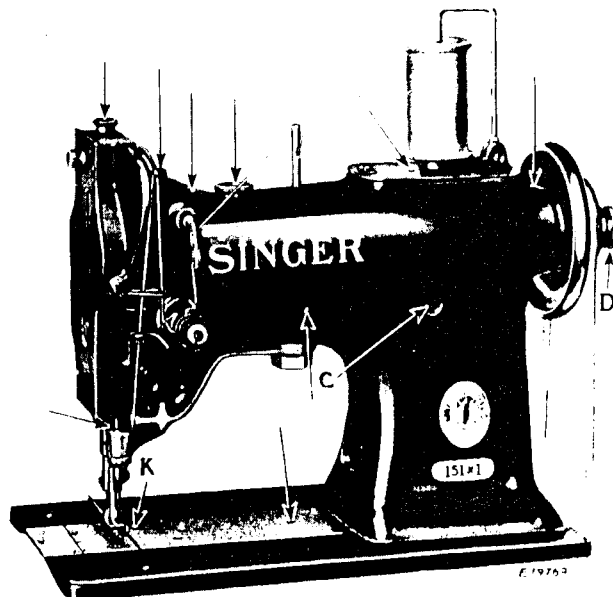
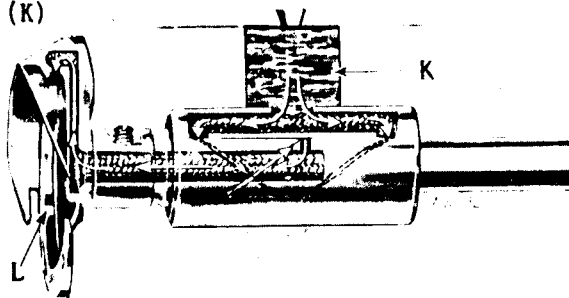

Fig. 2. Oiling Points at Front of Machine
Fig. 3. X-ray View of Hook
Before starting the machine, fill the oil reservoir (K, Figs. 2 and 3) through the oil hole in the bed of the machine. This reservoir lubricates the front hook shaft bearing and sewing hook raceway through the oiling system shown in Fig. 3.
When starting a new machine, it is advisable each morning, for about a week, to apply a few drops of oil directly to the hook raceway (L, Fig. 3). ALWAYS KEEP A SUPPLY OF OIL IN THE RESERVOIR (K)
Oil should also be applied to each of the places designated by arrows in Figs. 2, 4, 5 and 6. When the machine is in continuous use, it should be oiled at least twice each day.
The length of stitch is regulated by the feed regulating spindle head (D, Fig. 2) at the right of the machine pulley.